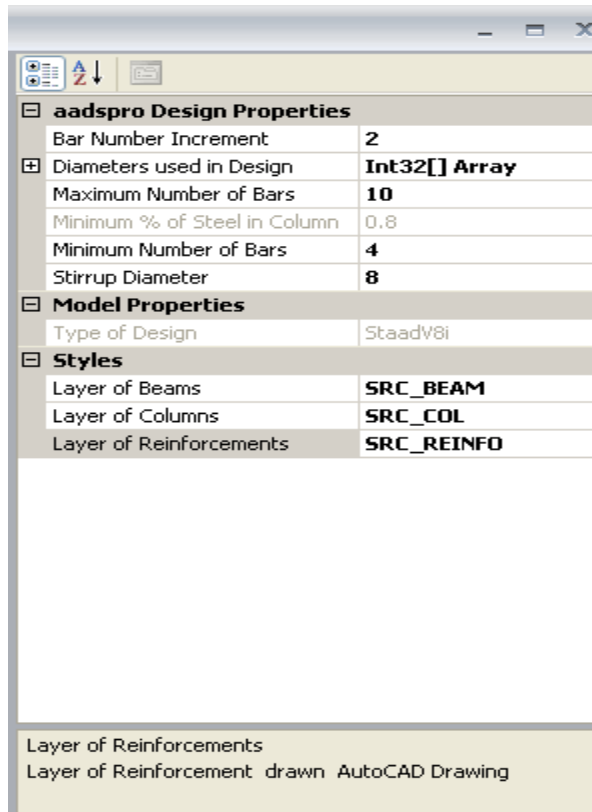

Fig 8.1.4
- User can set **properties** (fig 8.1.4)